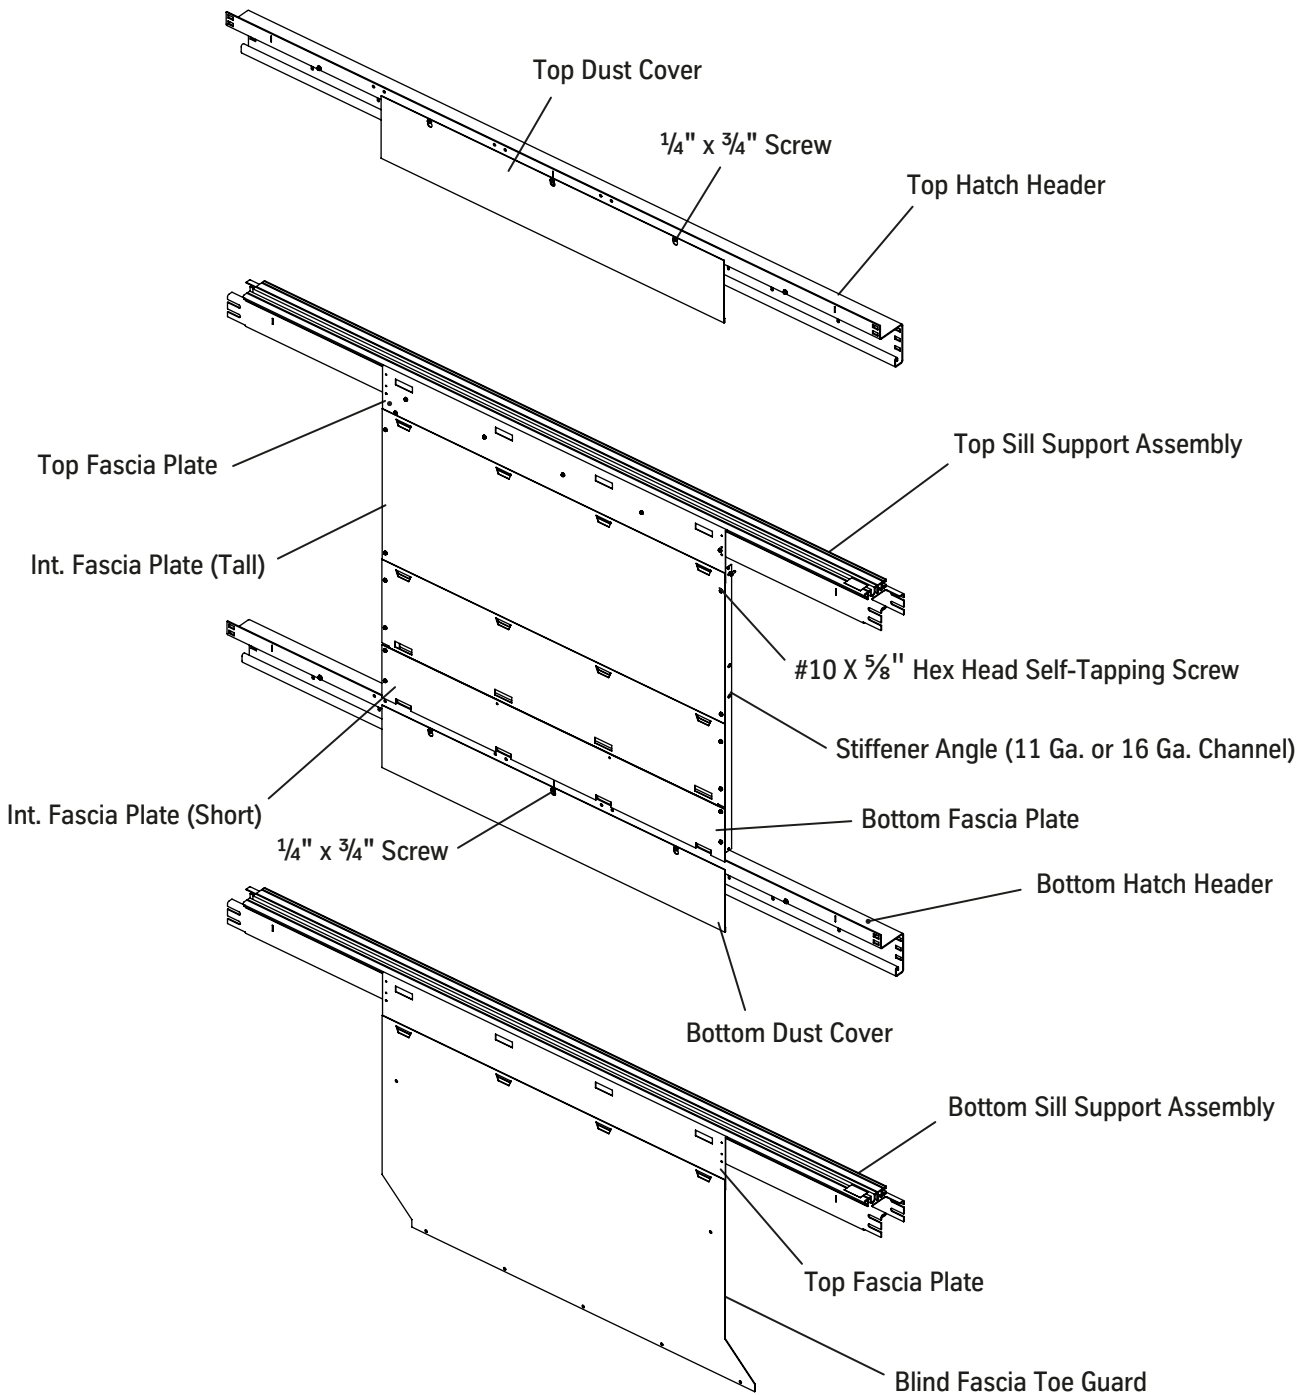

Figure 71 - Install Fascia Plates, Dust Covers, and Toe Guards (1 of 4)
2. Center a top fascia plate in the opening, and hook the fascia plate onto the hoistway sill of the top landing. See Figure 71 on page 97 through Figure 73 on page 99.